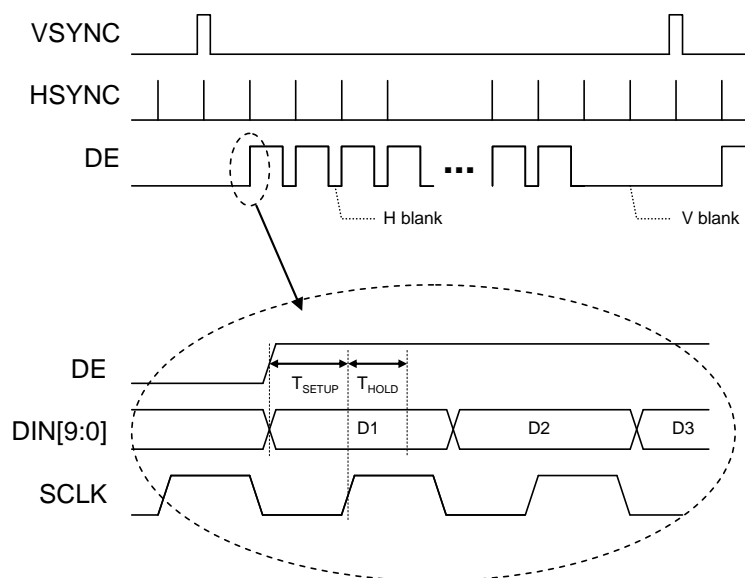

Figure 8 : Input Data timing diagram.
The 30-bit digital input port is comprised of three 10-bit data busses that make up the RGB data inputs. Separate synchronization signals (VSYNC and HSYNC) and the pixel clock (SCLK) are to be provided by the external video source. The data valid signal (DE) is used to signal the start of loading a row of data into the internal line memory. An active ENABLE signal is required for the Stereovision mode (inactive for all other modes, except Interlaced Video). The timing diagram for the input data bus is shown in Figure 8.